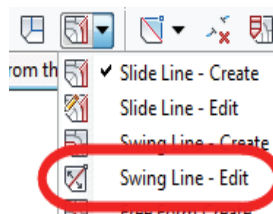

Figure 2–49
3. In the Parcel Layout Tools toolbar, select **Swing Line - Edit**, as shown in Figure 2–49.
4. In the Create Parcel - Layout dialog box, set the following parameters, as shown in Figure 2–50: